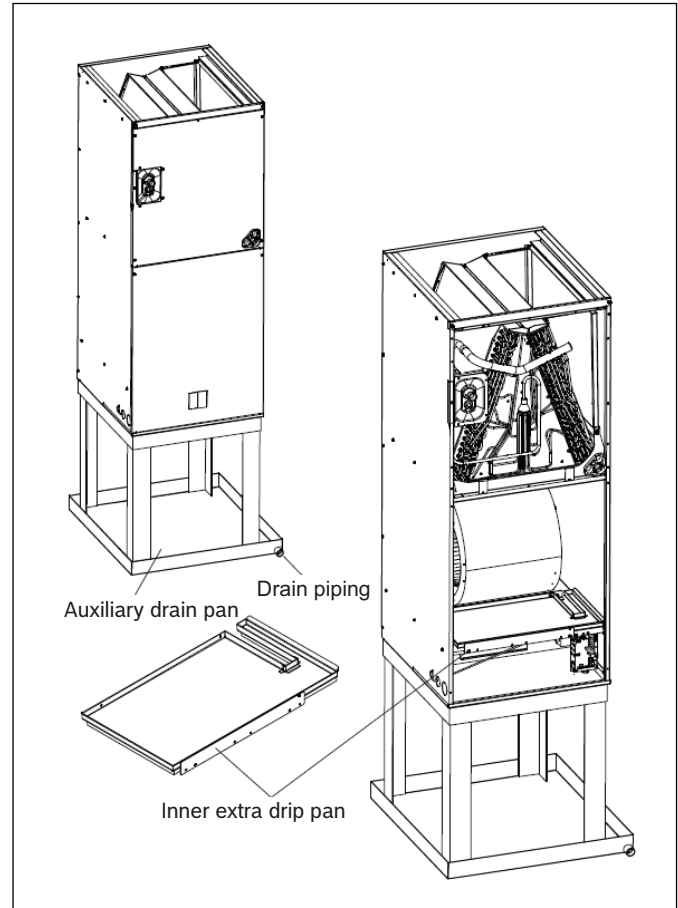

Figure 6 Installed Vertical Downflow
- Inner extra drip pan is recommended to be installed for 4 and 5 ton vertical downflow applications installed in high humidity environments. This inner extra drip pan can be ordered from the manufacturer as a spare part number 8733953539. Refer to Figure 6.